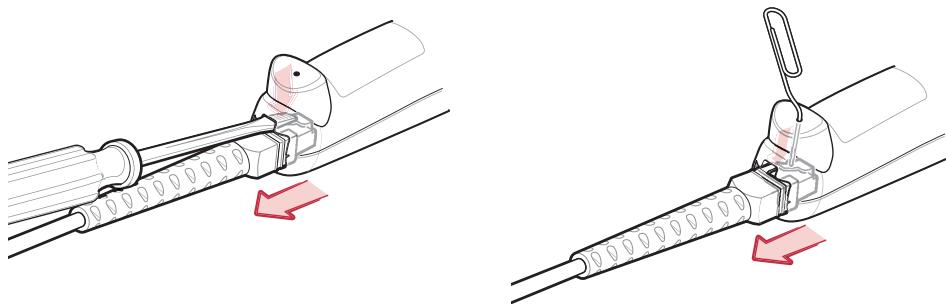

Figure 1-3 Removing the Interface Cable
1. Unplug the installed cable modular connector by depressing the connector clip with the tip of a screwdriver, or a paper clip as shown in Figure 1-3.